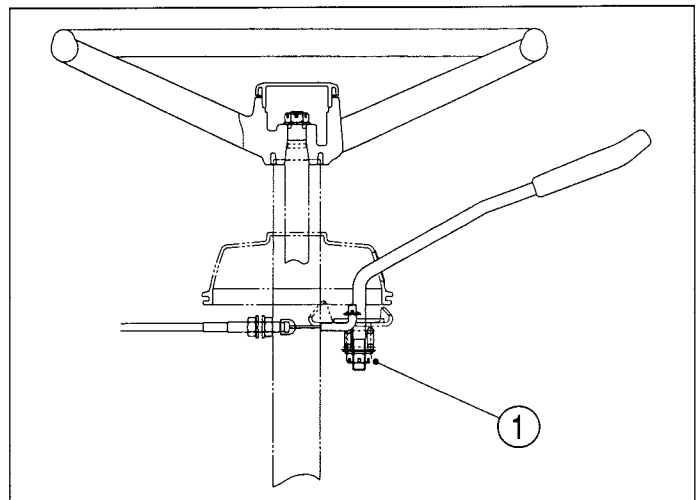

FIG. 93
FIG. 93: The throttle lever should remain in the position selected by the operator. Through normal use, friction against the lever may decrease, causing the lever to move out of the selected position. Turn the adjusting nut (1) as required to retain the throttle lever in the position selected.